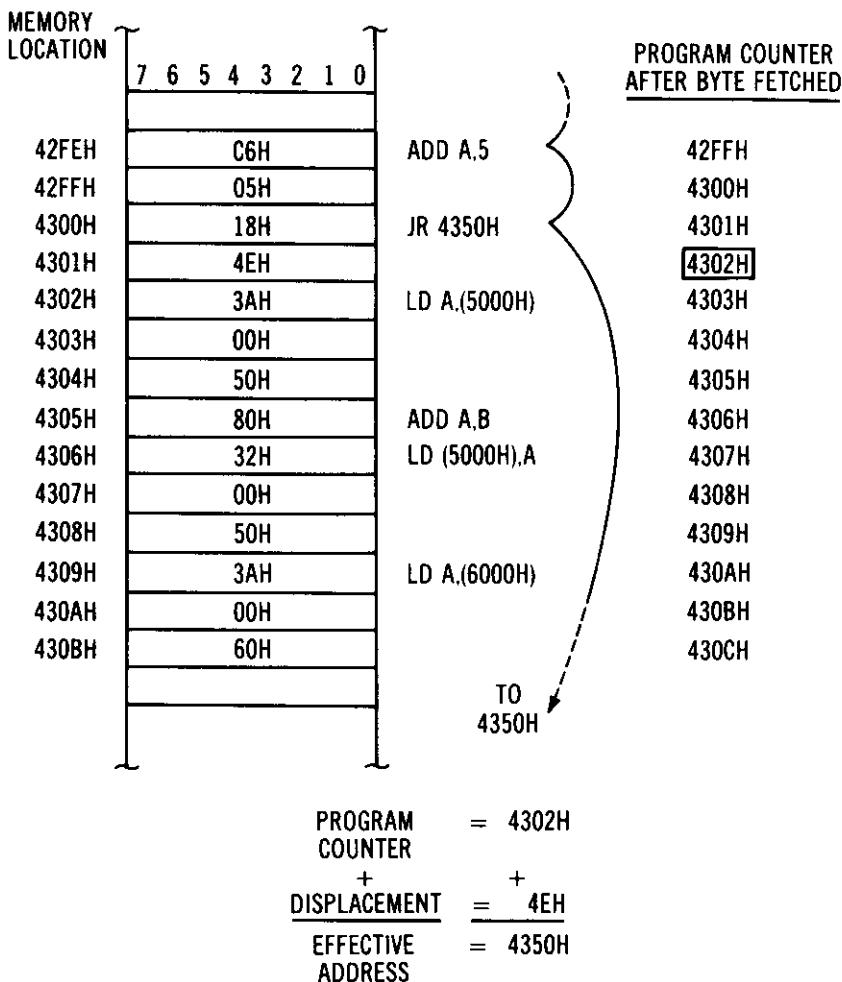

Fig. 3-11. Relative jump action.
Relative addressing is used only for *relative jump* instructions; no other types of instructions use the relative type of addressing, including CALLs. The relative jump uses two bytes to specify the instruction, one byte for the opcode, and one byte for the memory address. Oh, oh! There's that kid in the back of the class again. He's asked a very valid question—how can one byte specify a memory location when it takes 16 bits or two bytes to specify a memory location value of 0000H to FFFFH (0 to 65535). It would appear that we can't jump to anything other than locations 0 through 255, the values that can be held in one byte. Not true! What if we used that one byte to find the memory location by adding the contents of the program counter (PC) to the value found in the byte. The new address or *effective address* would be the address in the PC plus the value in the instruction byte. What's in the PC? Well, we know that the PC points to the next instruction after the jump. If we add the value in the instruction to the PC we get a value that points to the next instruction -128 through the next instruction plus 127, depending upon what was in the instruction byte *displacement*. In fact, with this type of instruction we can jump within a limited range of 256 bytes of the instruction itself. Since most of the jump destinations within a typical program are close to the jump instruction, this appears to be a valuable instruction, as it saves one byte of instruction length over a regular JP. Let's see how this works. Suppose that at location 4300 we have a jump to location 4350H. After the "JR 4350H" instruction has been fetched, the PC points to location 4302H, the next instruction. If we look at the second byte of the JR instruction, we find that the assembler has put a 4EH there. Adding the 4EH and 4302H we obtain 4350H, which is the jump address (effective address) that is jammed into the PC to cause the jump. This process is shown in Figure 3-11.